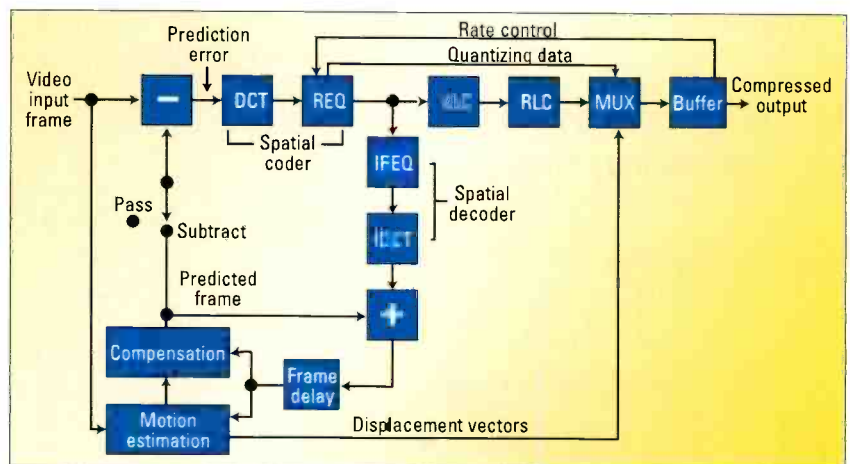

Figure 4. Conceptual block diagram of an interframe I/P encoder with motion compensation
- **The interframe coded picture (P):** The interframe compression reduces both the spatial and the temporal redundancies to increase the efficiency of the data compression. Figure 4 shows a conceptual diagram of an I/P compression scheme. The output of the spatial coder feeds a spatial decoder, which consists of an inverse REQ (IREQ) and an inverse DCT (IDCT), which reconstruct the predicted (past or I) picture. A fixed store memorizes and delays the I picture and feeds the motion estimator. The motion estimator compares the I picture with the present picture to create forward motion vectors. The I picture is shifted by these vectors to generate a predicted P picture. The predicted P picture is subtracted from the real (present) picture